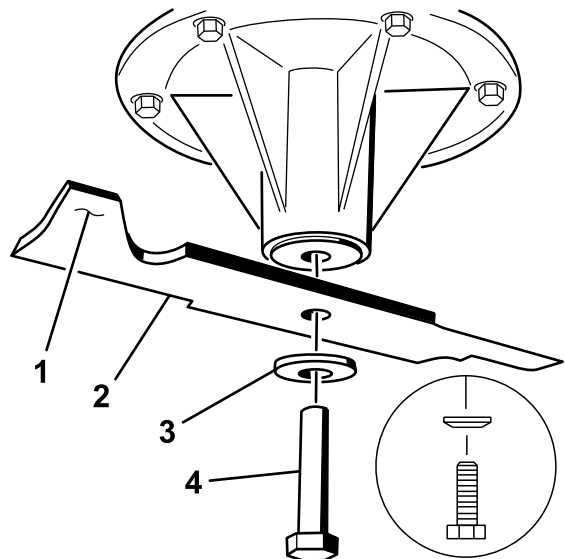

Figure 95
1. Install the left and center blades, curved washers, and blade bolts to the spindle shafts (Figure 95 and Figure 96).
Note: Install the curved-washer cone towards the bolt head (Figure 95).
2. Install the right blade, curved washer, and blade bolt (left-threaded bolt) to the spindle shaft (Figure 95 and Figure 96).